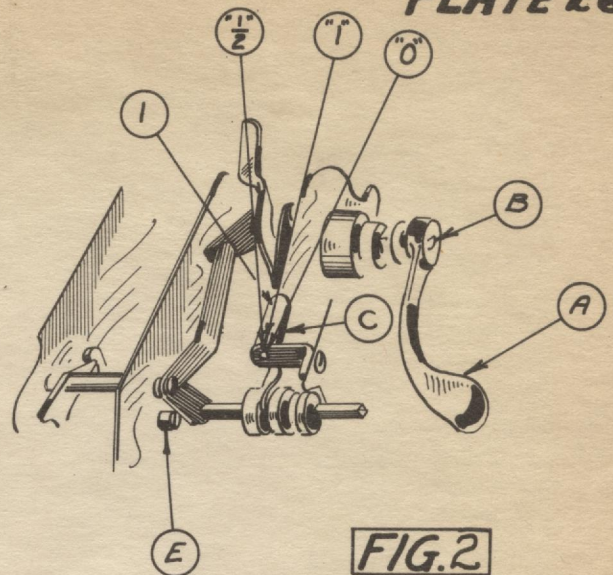

FIG. 2
- 175 NOTE TO SHIFT LEVER (A) TO THE RIGHT SO THAT A COMPLETE CLEAR OUT OF THE COUNTING AND CARRYING DIALS MAY BE EFFECTED IT IS NECESSARY FOR (G) TO ENGAGE AT (H) - TO ALIGN THESE POINTS ADJUST SCREW (J) WHICH ACTS AS A STOP AGAINST (K) ON SQUARE SHAFT (L).
- 176 NOTE - AFTER THE ABOVE TWO ADJUSTMENTS HAVE BEEN MADE (FIG. 2 AND FIG. 3) - IF A BIND OCCURS IN THE RIGHT HAND SET OF DIALS; IT PROVES THAT NOT ENOUGH CLEARANCE HAS BEEN PROVIDED AT (F) FIG. 1 - TO CORRECT, READJUST (E) AND (J) TO SUIT.